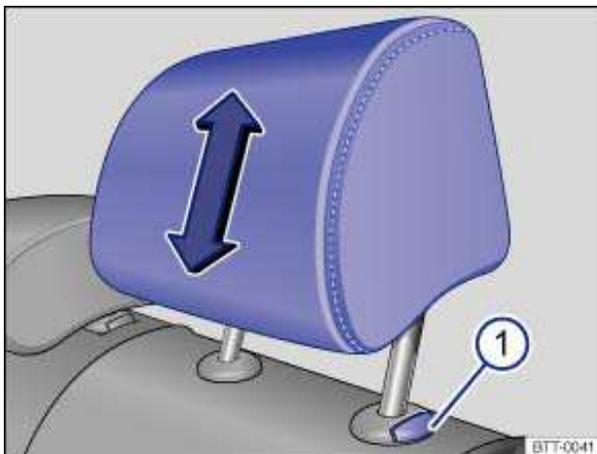

Fig. 48 Removing the rear head restraints.
- While pressing the button ⇒ fig. 48 \(1\), pull the head restraint out completely.